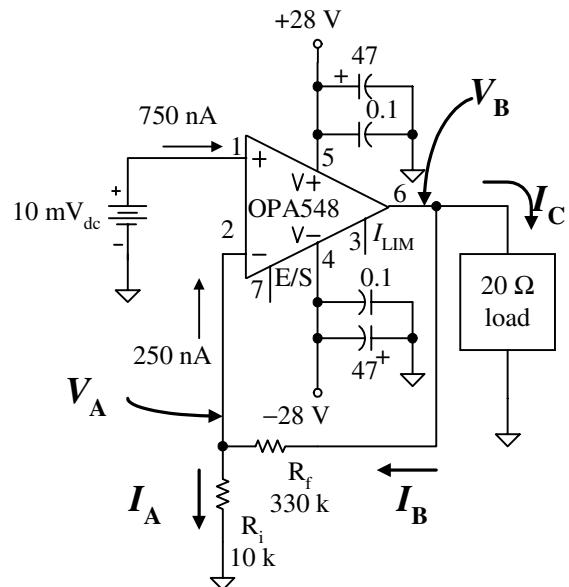

Figure 4-26 Schematic for Problem 4-3
- 4-3** The nonideal input offset voltage, bias currents, and offset currents are shown in Figure 4-26. Calculate the indicated voltages and currents. Hint: do the calculations in the indicated order.
- 4-4** For the circuit in Figure 4-26, if the 10 mV_{dc} offset voltage source is replaced with a 500 mV_{rms} sinusoid,